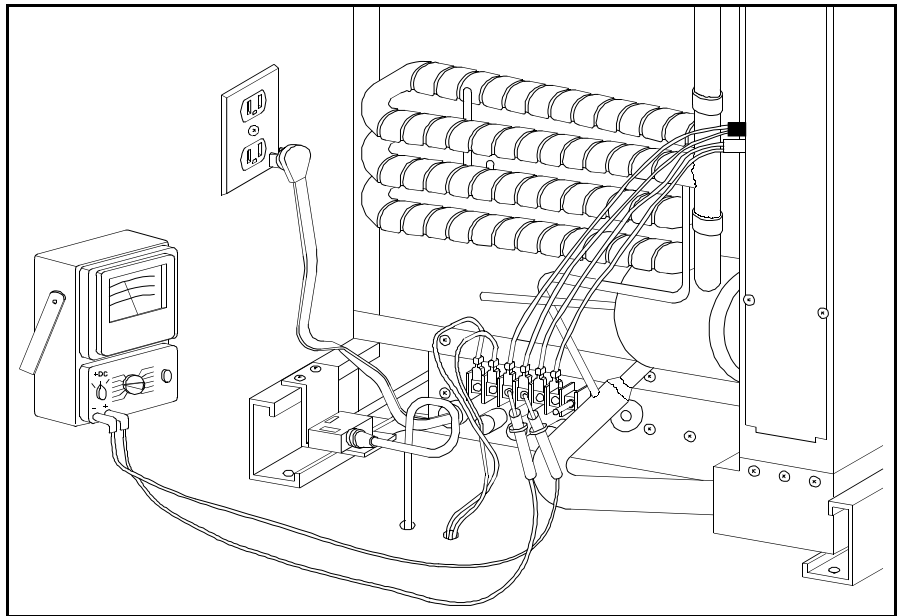

Figure 3.48
13. Check for 12 volts at the DC heater terminals as shown in Figure 3.48.